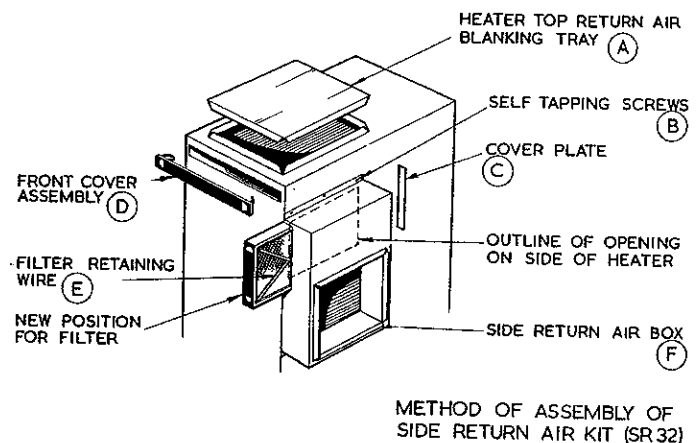

Fig. B2
- With doors removed, position the opening of the side return air box (F) in line with the opening in side of heater, ensuring that the front edge of the side return air box is in line with the front of the heater.
- Fit the side return air box to the heater using the self tapping screws (B) provided in the kit.
- Fit front aperture cover assembly (D) into original filter slot. Fit cover plate (C) using three of the plastic 'W' buttons.
- Fit the heater top return air blanking tray (A) over the top return air inlet and tape.
- Fit the filter retaining wire (E) to the filter tray.
- Insert filter tray assembly into the side return air box as shown in Fig. B2.